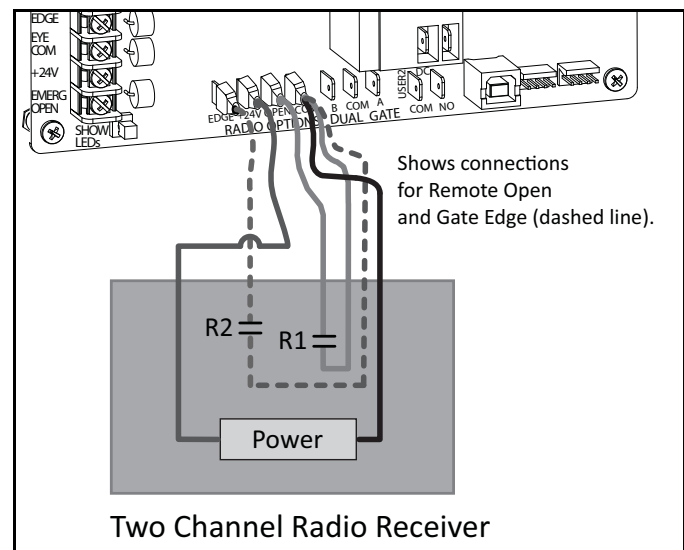

Figure 6-1.
2. Knock out the closest hole in the bottom of the electrical box and route the wires to the area marked RADIO OPTIONS. Only three wire connections are needed because the common wire and one radio output wire are connected together. Figure 6-1 shows additional wires from a two channel receiver.